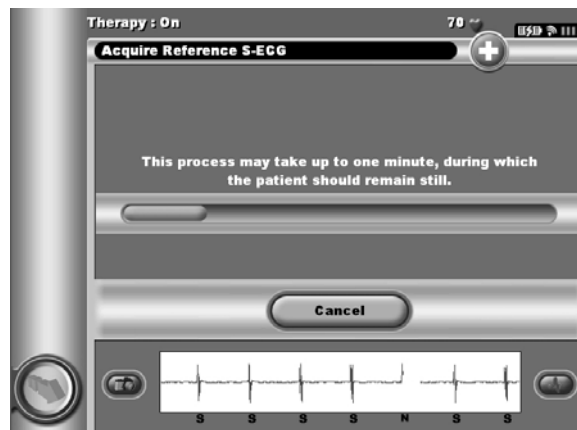

Figure 46: The patient should remain still while the Reference S-ECG is acquired.
2. Select Continue to acquire a Reference S-ECG. The programmer will begin acquiring the Reference S-ECG. A message will appear requesting that the patient remain still (Figure 46). The reference S-ECG QRS template is recorded and stored in the SQ-RX device. Select the Continue button to complete the process and return to the Utilities screen. The Cancel button can be used at any time to end S-ECG acquisition and return to the Utilities screen.